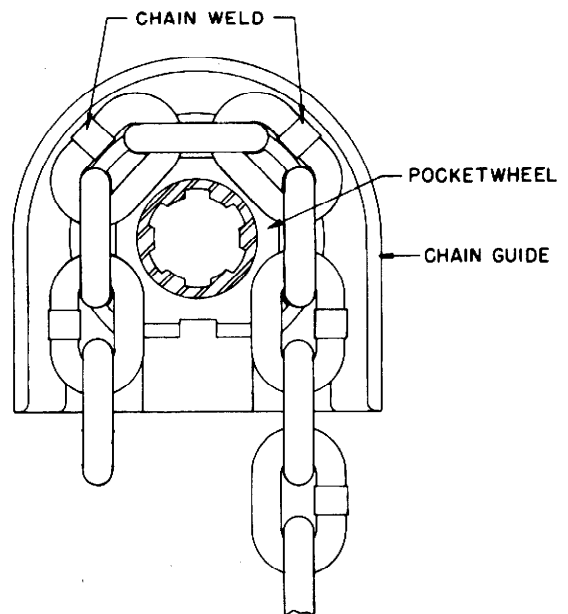

FIGURE 5
LINK CHAIN MODELS — Position hoist in a vise or other suitable holding device (figure 5) and remove housing cap, brake spring and brake shoes. Turn brake wheel by hand to rotate pocketwheel while carefully feeding chain thru chain guide and around pocketwheel. Pull sufficient chain thru housing to allow end link of chain to be attached to anchor lug on housing.
**IMPORTANT NOTICE:** The link chain must be positioned around the pocketwheel so the weld on the standing links of chain face outward from pocketwheel (figure 5). ALSO, the end link of chain must be fed over pocketwheel so it will be positioned properly to permit attaching chain to anchor lug on housing without twisting of chain (figure 16).